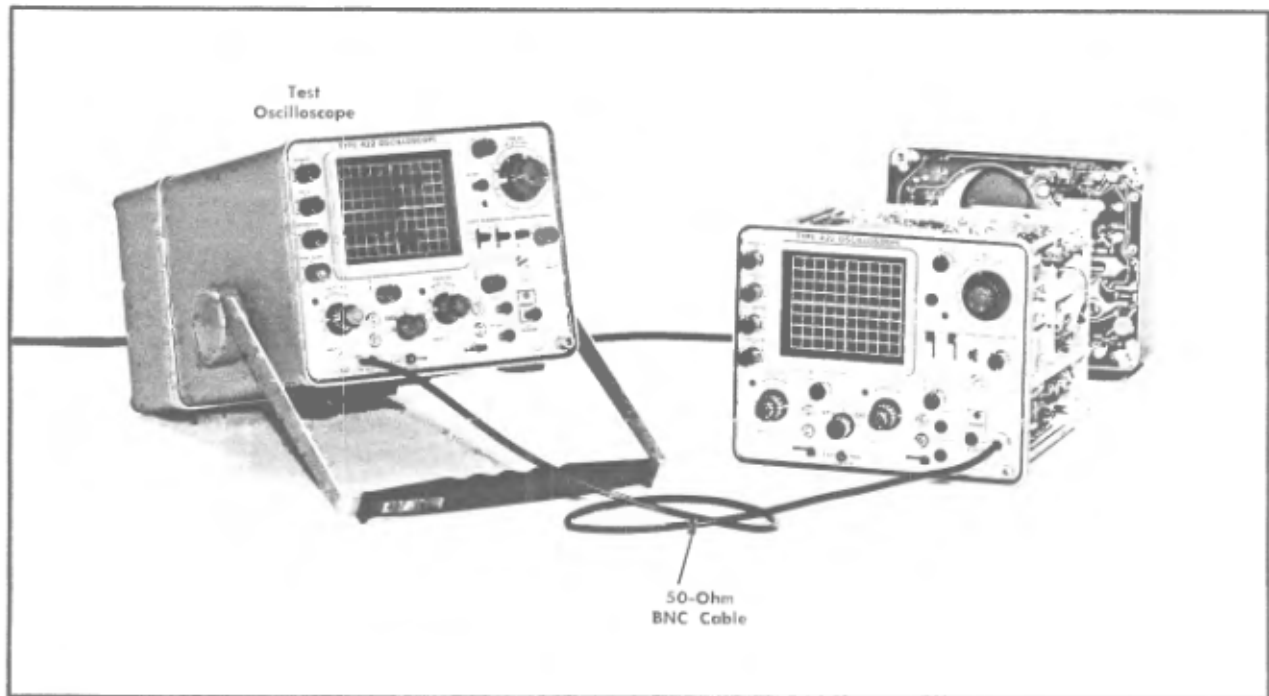

Fig. 6-57. Test equipment setup for step 52.
- a. Test equipment setup is shown in Fig. 6-57.